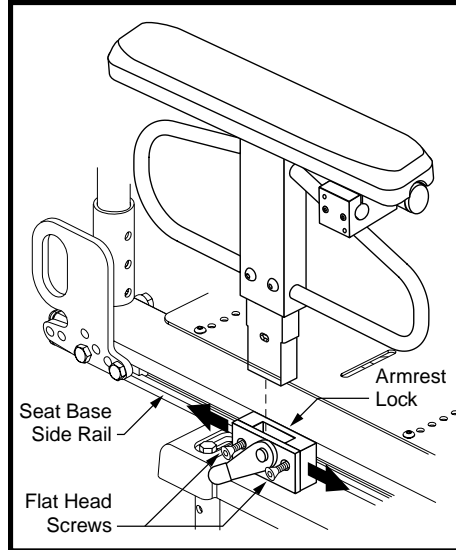

Figure 8. Armrest Position Adjustment
2. Loosen the flat head screws that fasten the armrest lock to the seat base side rail. See figure 8.
5. Install the armrest in the armrest lock. See figure 8.